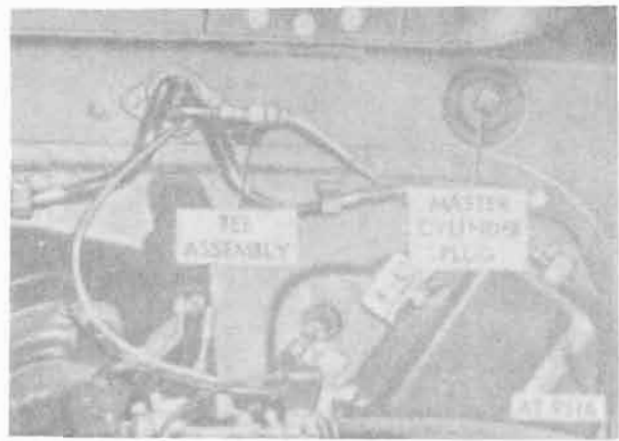

Figure 18-96. Master cylinder plug and ventilation tee.
d. Remove and discard plug from master cylinder (fig. 18-96). Stow gasket.
e. Disconnect lines at tee assembly. Remove and discard tee (fig. 18-96).